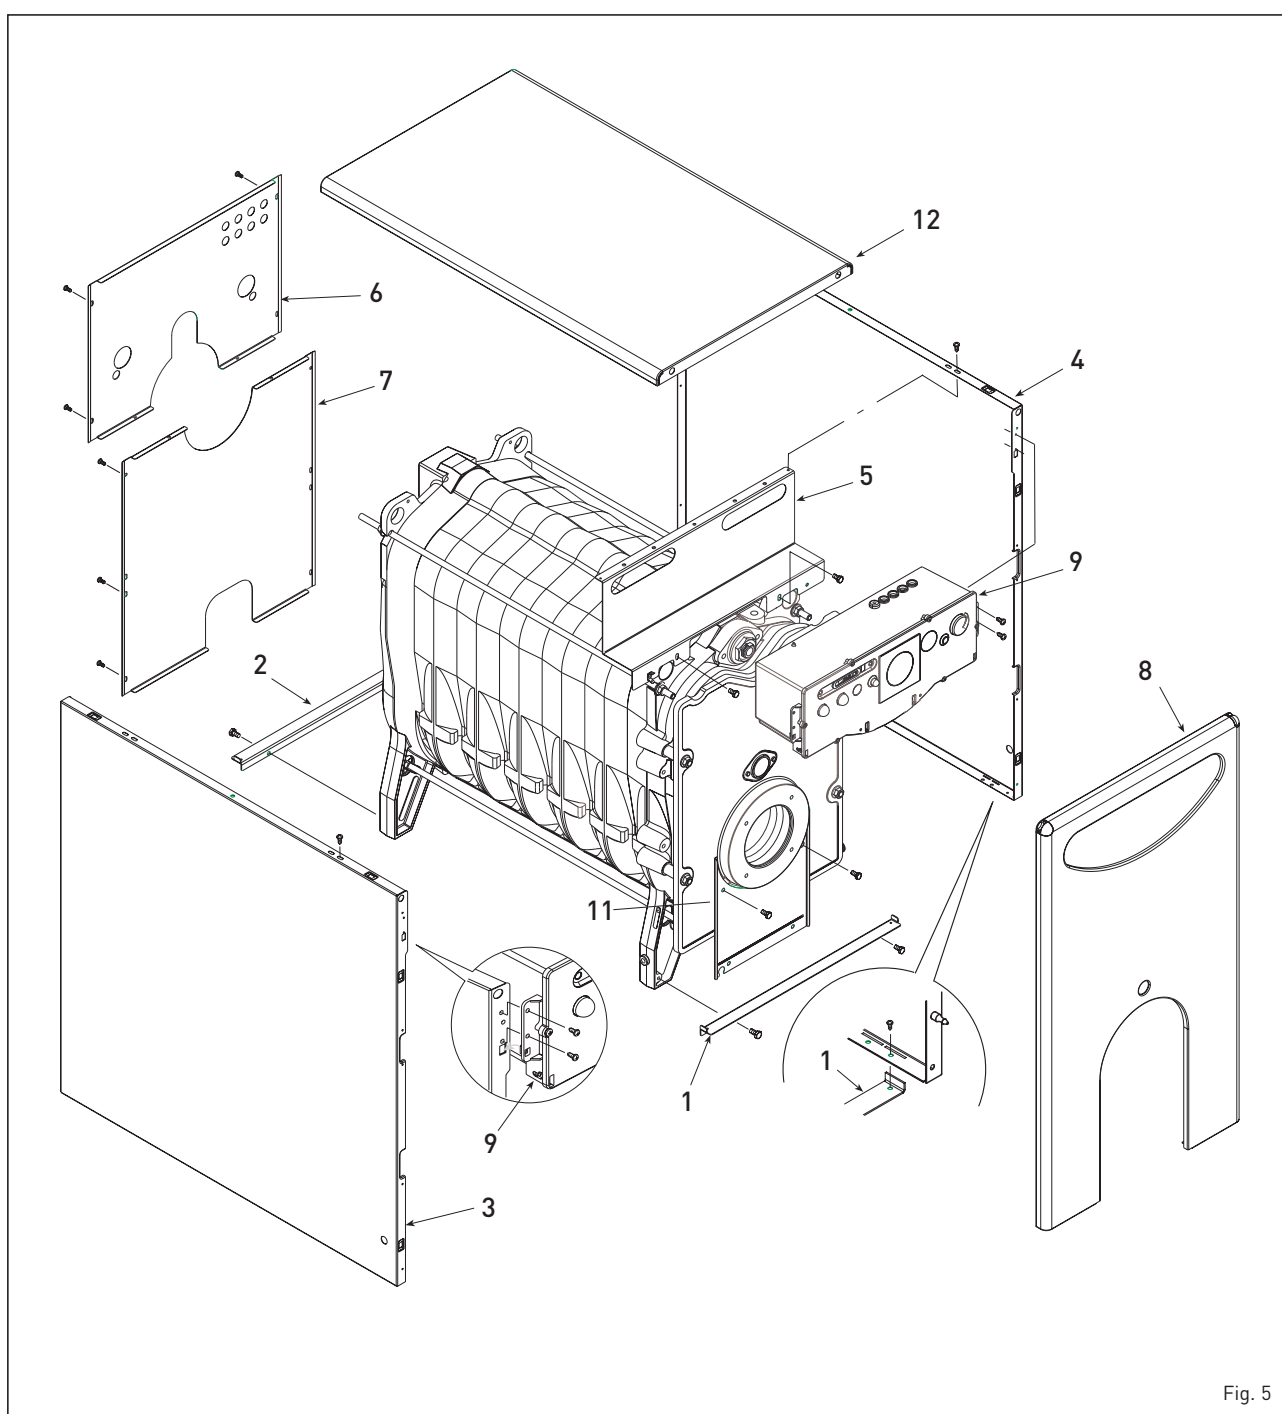

Fig. 5
2.5 FITTING THE CASING "RONDÒ" (fig. 5)
The housing package also contains the boiler documents and the glass wool for insulating the cast iron body. To fit the casing, proceed as follows (fig. 5):